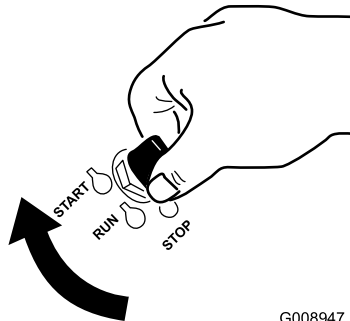

Figure 14
1. Turn the ignition key to the Start position (Figure 14). When the engine starts, release the key.
6. Turn the ignition key to the Start position (Figure 14). When the engine starts, release the key.